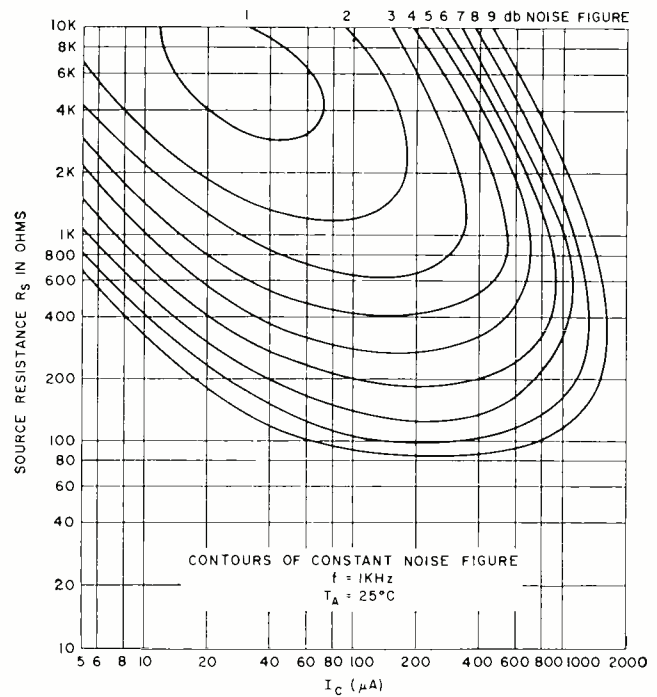

Fig. 4. Noise figure vs source resistance, collector current (2N3391).
depends on the signal-source impedance as well as the collector current. Typical curves of constant noise figure (NF) as a function of collector current and source resistance are shown in Fig. 4. From the graph it can be seen that the best noise figure is obtained for source impedances between 3000 and 10,000 ohms at a collector current of approximately 40  $\mu$ A.